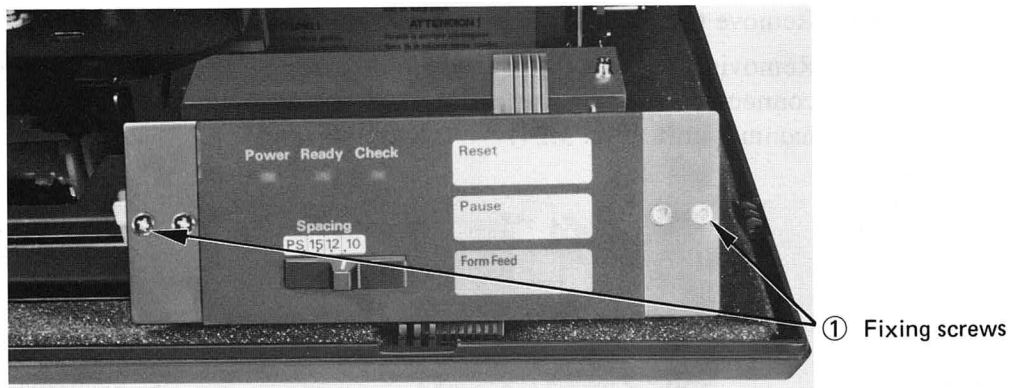

Fig. 5.26
Step 1. Remove two fixing screws ① from the operation panel unit. (Fig. 5.26)